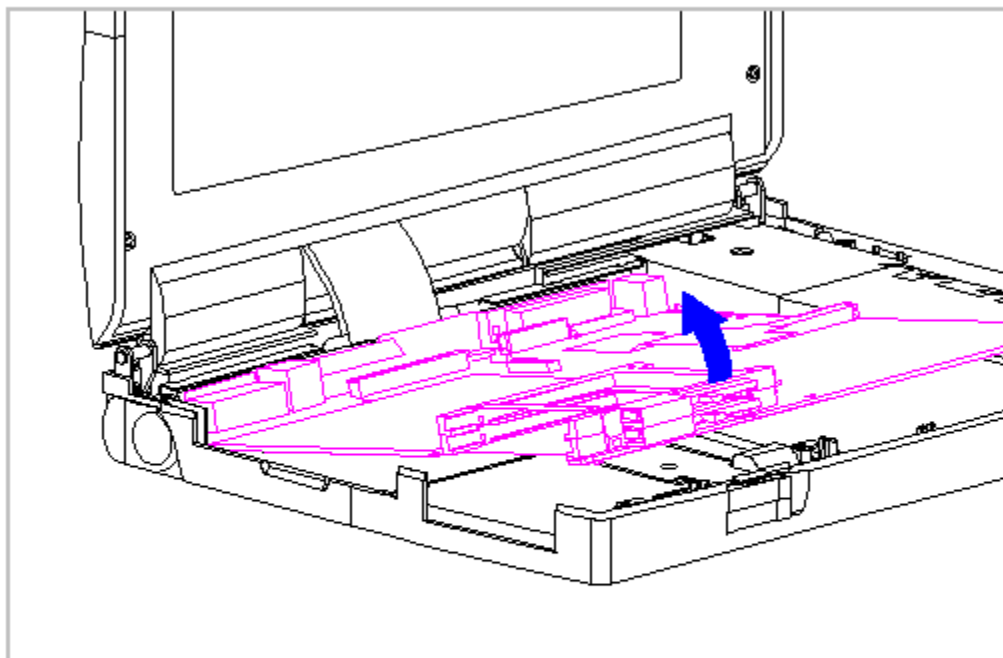

Figure 5-49. Removing the System Board
14. From the front of the computer, tilt the system board up, then lift the system board out of the system chassis (Figure 5-49).